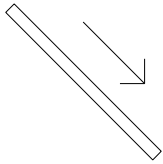

Figure 3: Drag force on module surface
**Drag Force** - If the installation is located in an area that has heavy snow loading or an area with repetitive freeze thaw cycles, the solar modules will be subjected to a drag force. This drag force is the force pulling the modules at a downward angle (figure 3). To resist the drag forces the solar module must have support on the lower edge of the module frame. It is recommended that the mounting rails be oriented vertically, placing the module mounting hardware at the lower module edge. The solar system designer must determine the amount of drag force, as more than 2 mounting clamps may be required for some sites.